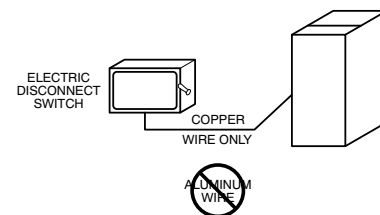

Fig. 34 – Field-Supplied External Electrical Box on Furnace Casing
Do not connect aluminum wire between disconnect switch and furnace. Use only copper wire. See Fig. 34.
1. Drill two (2) 1/8-in. (3 mm) pilot holes through the dimples in the furnace casing near the 7/8-in. knockout or plug on the side of the casing. Do not remove the knockout or plug in the side of the casing.
9. Connect field power and neutral leads to furnace power leads inside the external electrical box as shown in Fig. 34.